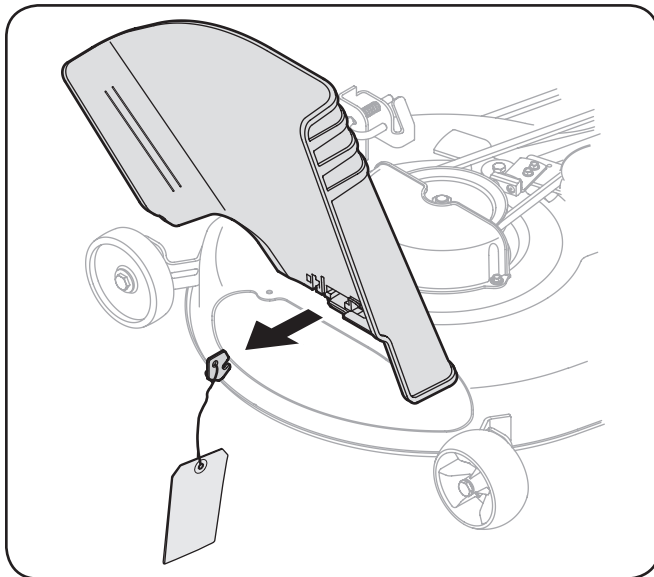

Figure 3-1
1. Locate the shipping brace, if present, and warning tag found on the right side of the cutting deck. See Figure 3-1.